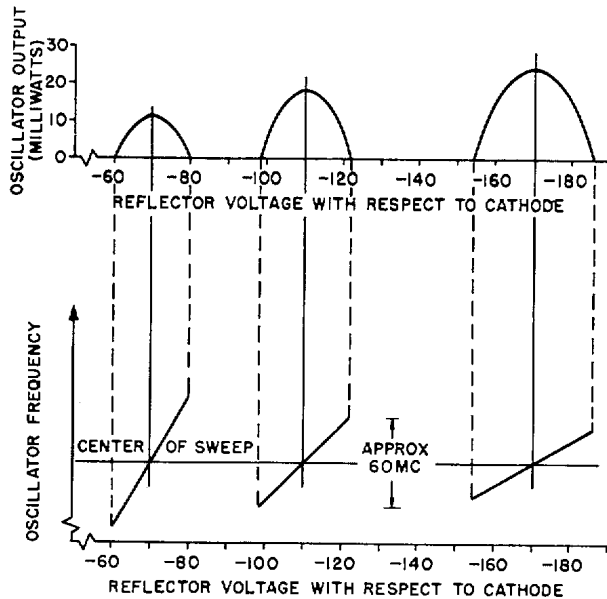

Figure 2-21. Reflex Klystron Characteristics
(2) There are two methods of tuning a reflex klystron tube. The first is to tune it mechanically by varying the volume of the resonator chamber. The tube is mechanically tuned by turning the squareheaded nut mounted on it and is covered by about $3\frac{1}{4}$ turns of the SIGNAL FREQUENCY knob.
(3) The other method of tuning the oscillator is to vary the reflector voltage. When the voltage is correct, the transit time and bunching of the electrons will sustain oscillation at the natural resonant frequency of the cavity. If the reflector voltage is varied slightly, the rate at which electron bunches arrive at the resonator cavity will change. This will cause a change in frequency, and also the power will drop as the frequency moves away from the natural resonant frequency of the cavity. (See figure 2-21.)
minus 75, minus 110, and minus 170 volts with respect to the cathode. The relation of power output and frequency to reflector voltage is shown for three modes in figure 2-21. These curves are general, and not precise for any one tube of the 2K25 type. They indicate that the power output of the tube is greater in the modes with more negative voltage on the reflector. However, the range of frequency sweep within each mode decreases with increasing negative reflector voltage. Between the half-power points of the minus 75 volt mode, the frequency range is approximately 60 megacycles. In the 110 volt mode, the frequency range is approximately 35 megacycles, and in the 170 volt mode, it is approximately 25 megacycles. Frequency data for the 30 volt mode have not been determined accurately because of erratic and undependable behavior. The reflex klystron 2K25 used in Test Set TS147D/UP does not use the full range of the available frequency excursion described in the foregoing data. (See par. 3d (3) and (4).)